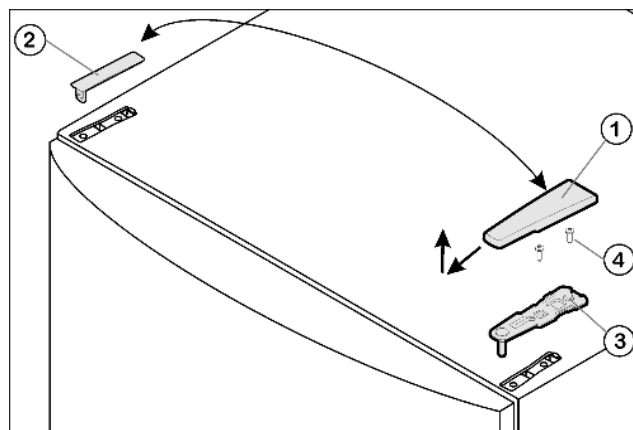

Fig. 4
- ▶ Pull off the cover *Fig. 4 (1)* forwards and upwards.
- ▶ Lift off the cover *Fig. 4 (2)*
- ▶ Unscrew the upper turn hinge *Fig. 4 (3)* (2 Torx 25) *Fig. 4 (4)* and raise it for removal.
- ▶ Insert the upper turn hinge Fig. 4 (3) in the door on the new hinge side.
- ▶ Screw the top turn hinge firmly into place (**with 4 Nm**). (2x Torx 25) Fig. 4 (4). Possibly make preliminary holes with a bradawl or use a cordless screwdriver.
- ▶ Apply the cover Fig. 4 (1) and cover Fig. 4 (2) to the opposite side from the outside and snap them into place.